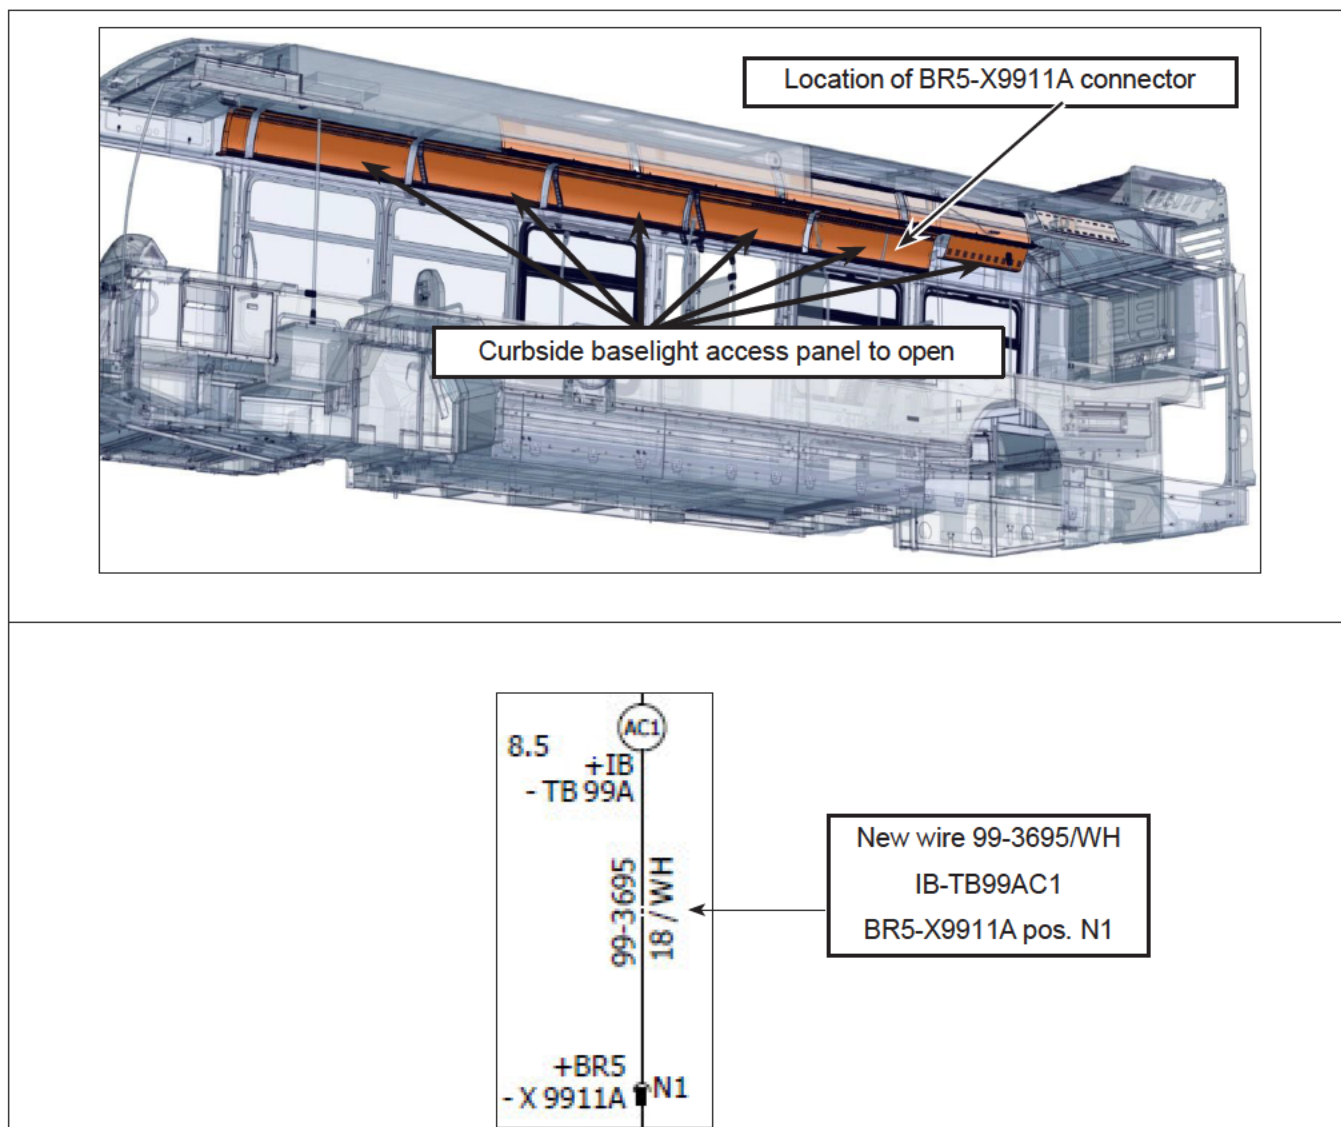

Figure 10 - New Wire 99-3695 Installation
- 1.24. Open all the curbside baselight access panels. See Figure 10.
- 1.25. Disconnect connector BR5-X9911A locate in the 5th curbside baselight area. See Figure 10.
- 1.26. Connect wire 99-3695/WH (available in wire kit N632001301) in connector IB-TB99A and in connector BR5- X9911A. See Figure 10.
- 1.42. Close all the curbside baselight access panel. See Figure 10.